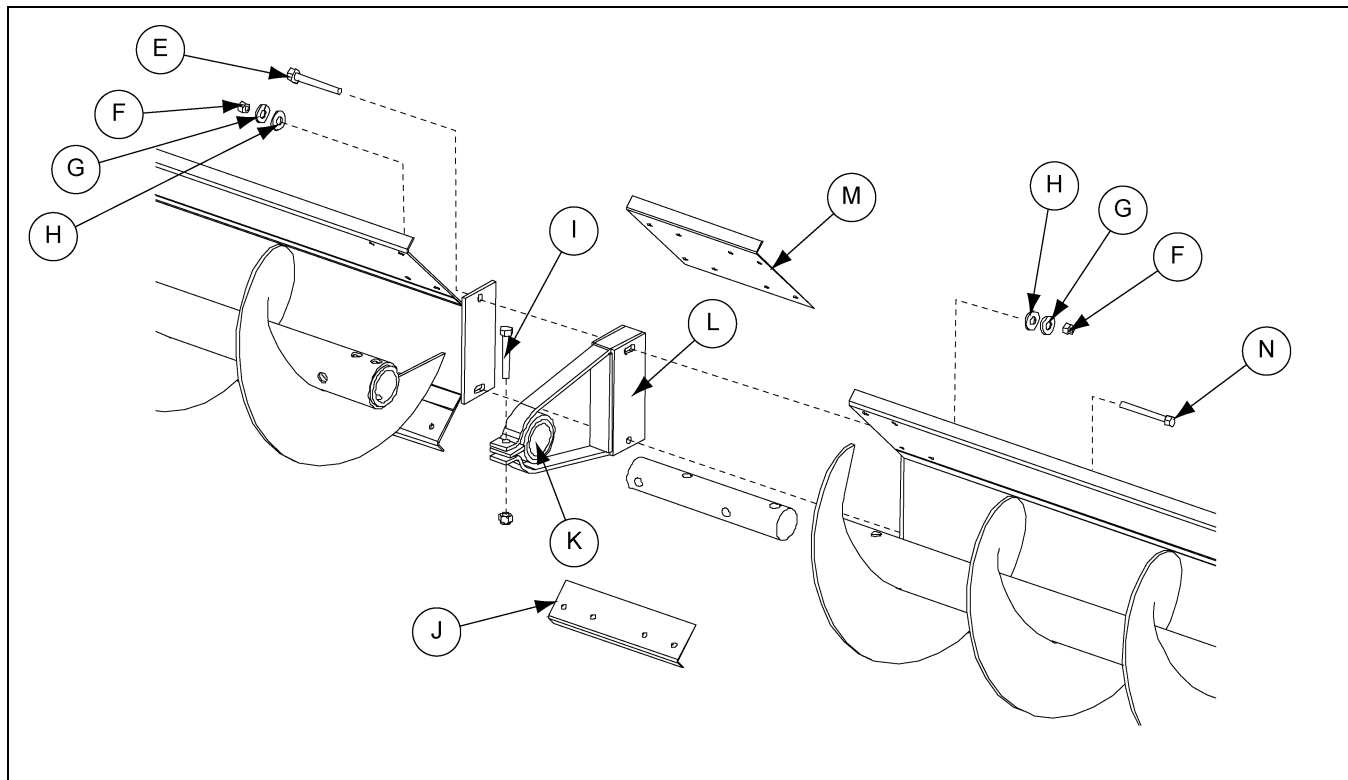

Figure 4I Bearing Stand Assembly
3. Bolt the bearing holders (K) to the inside of the bearing stands (L). Use a 7/16" x 1-1/2" long hex head cap screw and nylon lock nut to secure the bearing holder (K) to the bearing stand (L). *(See Figure 4I on Page 22.)*
4. Place the bearing stand (L) between the first sweep back shield section and the next section to be used. Bolt the sweep back shield sections to the bearing stand (L) by using two (2) 3/8" x 3" long hex head cap screw (N), two (2) flat washers, two (2) lock washers and two (2) nuts. *(See Figure 4I on Page 22.)*